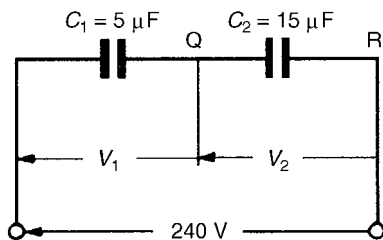

Figure 6.10
- (a) $2\ \mu\text{F}$ in parallel with $3\ \mu\text{F}$ gives an equivalent capacitance of $2\ \mu\text{F} + 3\ \mu\text{F} = 5\ \mu\text{F}$. The circuit is now as shown in Fig. 6.10.
- (b) The charge on each of the capacitors shown in Fig. 6.10 will be the same since they are connected in series. Let this charge be Q coulombs.